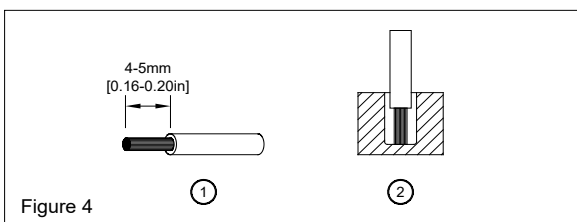

Figure 4
To secure reliable and shock proof connections, the stripping length should be 4-5mm (see Fig. 4 (1)). Please ensure that wires are fully inserted into the connecting terminals as shown in Fig. 4 (2).